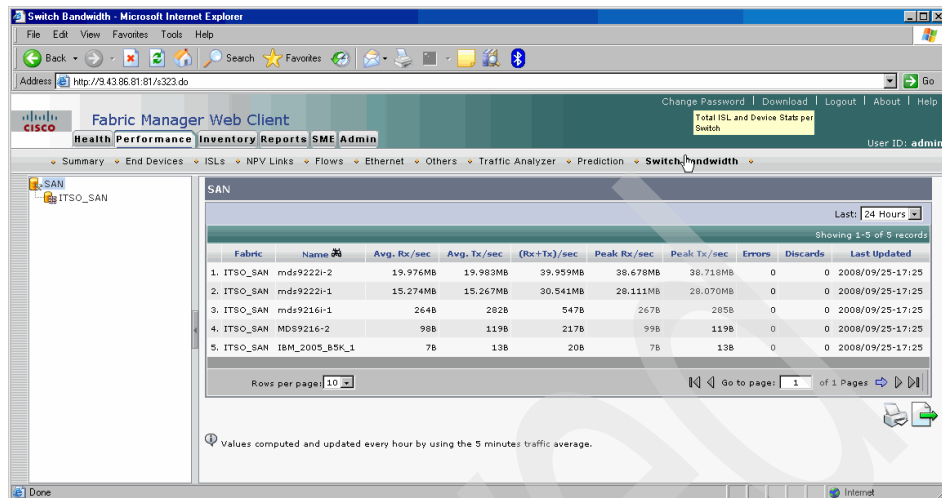

Figure 4-51 Switch bandwidth report
- ▶ Switch bandwidth (Figure 4-51 on page 126)